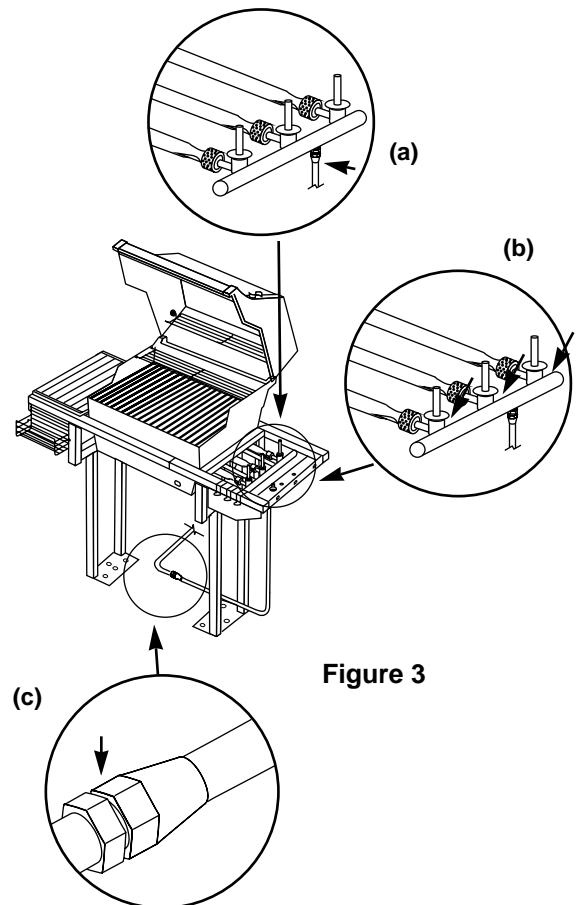

Figure 3
- a) Gas supply line to manifold connection. Figure 3 (a).
- b) Valves to manifold connections. Figure 3 (b).
- c) Barbecue gas supply line to natural gas supply connection. Figure 3 (c).